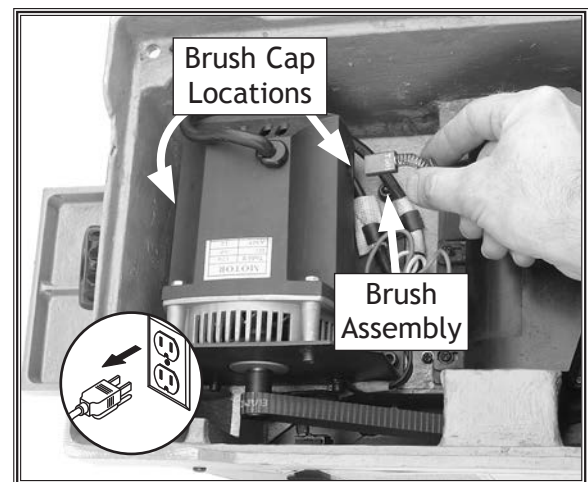

Figure 50. Removing a motor brush.
5. Use a dime to unscrew the brush caps. (See **Figure 50** to locate the brush caps.)